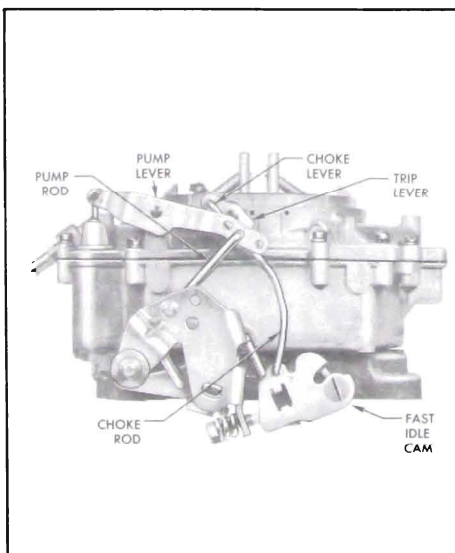

Figure 3-47—Exterior Linkage
1. Remove spring clip from upper end of intermediate choke rod and disengage rod from choke shaft lever. See Figure 3-47.
3. Remove choke trip lever and attaching screw. Disengage choke lever and collar assembly from choke shaft and disengage lower end of choke rod from fast idle cam. Then remove choke lever and collar, and choke rod as an assembly. See Figure 3-47.
26. Install choke rod, and choke lever and collar assembly. Install choke trip lever on end of choke shaft with "RP" out and tighten attaching screw. See Figure 3-47.